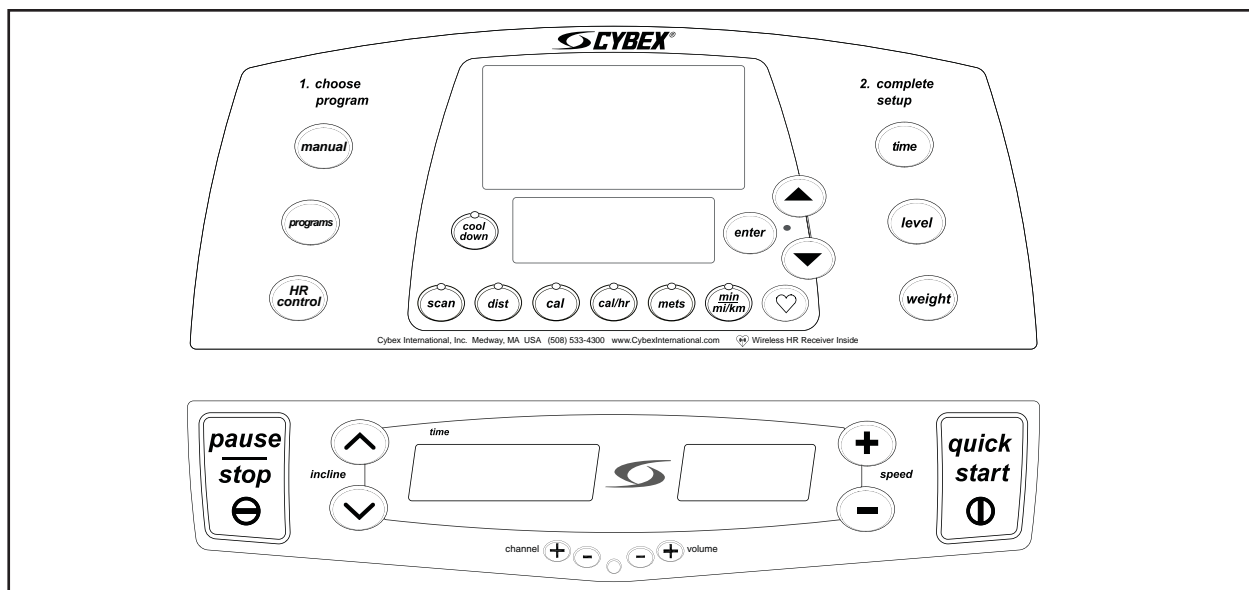

Figure 1A (Standard)
6. The treadmill begins a countdown, “3...2...1” and sounds a tone for each count. When it reaches one (1) the treadmill gives a longer tone and then starts accelerating the belt. In *Manual Mode* the belt will begin accelerating to 0.5 mph (0.8 kph) and the incline will remain at zero percent. In a program the belt will begin accelerating and the incline will change to the corresponding speed and incline of the program and level you selected.
8. Observe the three display windows. The top center window will scan (every three seconds) through **Distance**, **Calories**, **Calories per hour**, **Mets**, **Pace** and **Heart Rate**. Press the **Scan** key to toggle this feature on or off. **NOTE:** *Heart Rate is scanned only when you are holding the contact heart rate grips or wearing a Polar® compatible chest strap.* The left window will display the time. **NOTE:** *During your workout the time will show in the format of minutes:seconds (after 99:59 the display will only show minutes).* The right window will display the current speed. See Figure 1A or 1B.